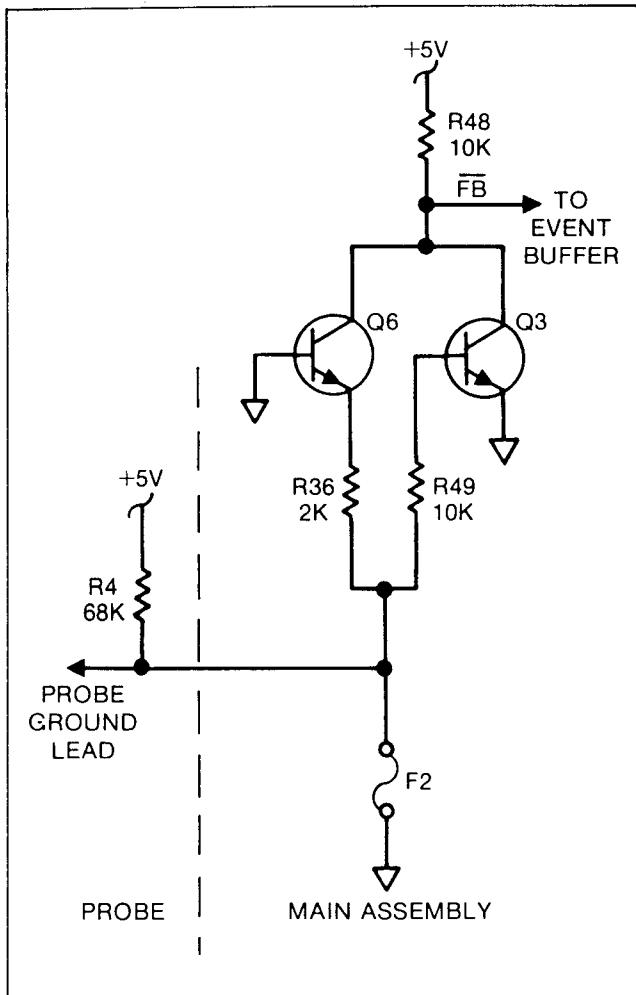
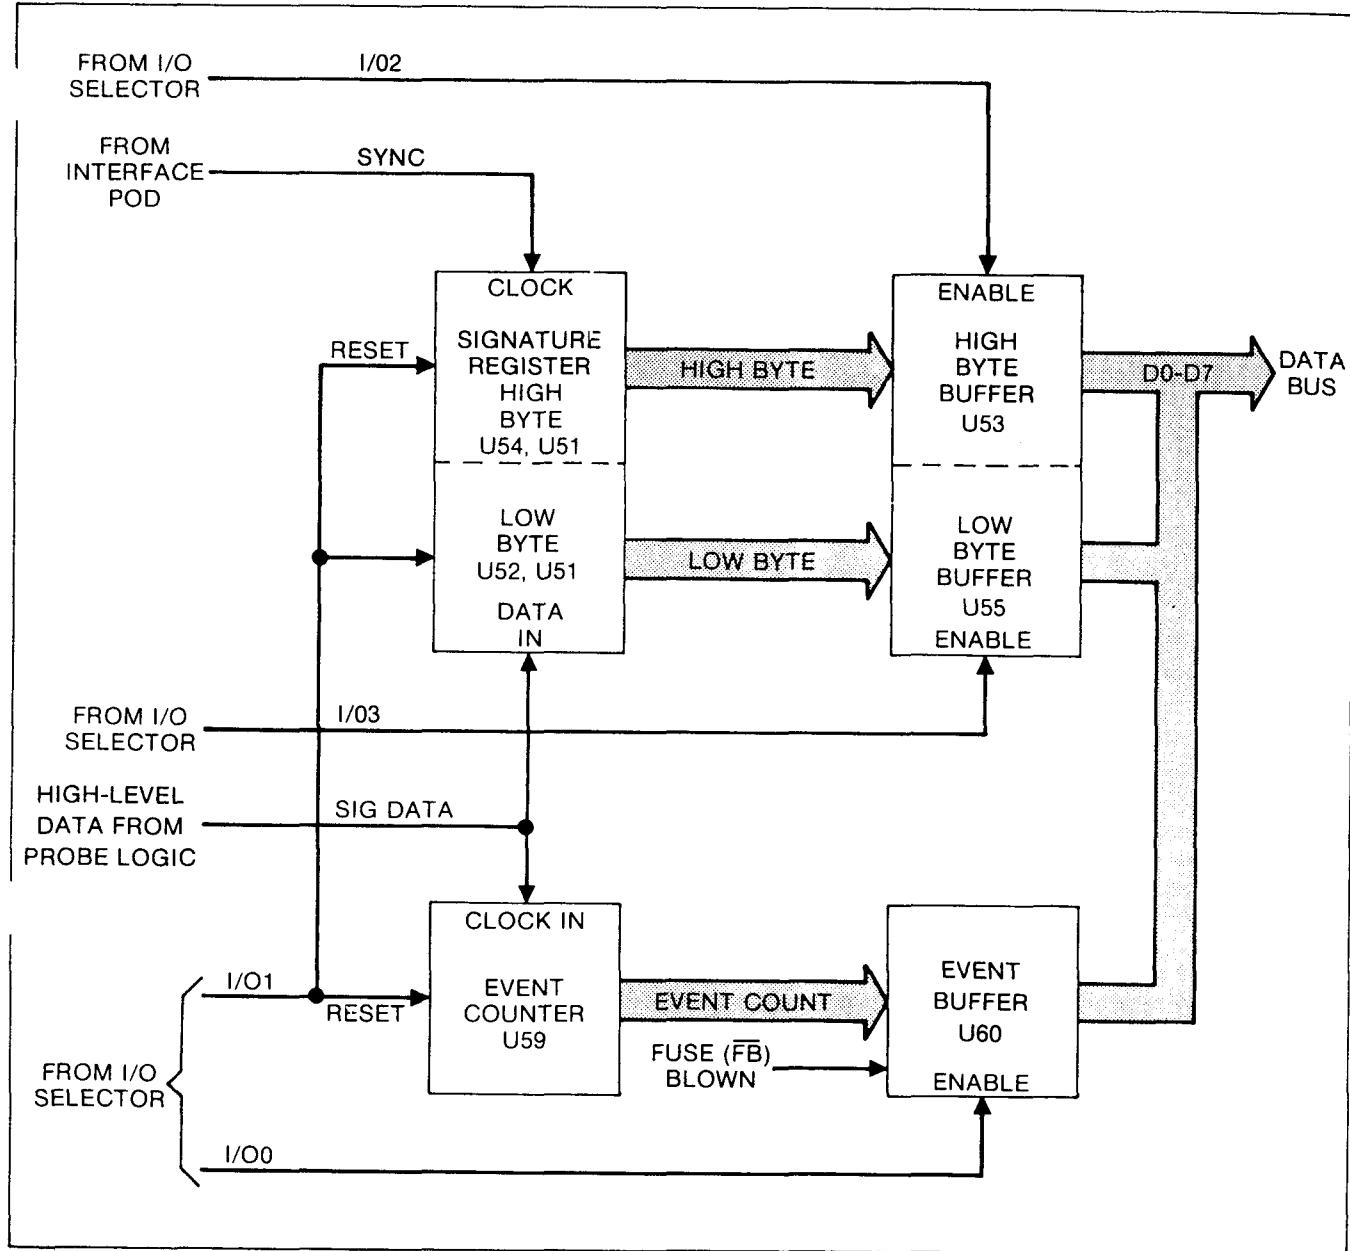

Figure 3-9. Probe Fuse Sensing Circuit
Figure 3-10. Signature Register/Event Counter
3-90. The ground path for the probe contains a fuse, F2. A sensing circuit, shown in Figure 3-9, detects failure of the fuse and/or connection of the probe ground lead to any positive or negative supply. Normally, the probe ground lead ties to ground via fuse F2. However, when an overload condition causes failure of F2, the ground lead goes to +5 volts due to a pull-up resistor (R4) contained in the probe. The +5 volts turns Q3 on to produce the FB (fuse blown) signal fed to the event buffer shown in Figure 3-10. The microprocessor reads the contents of the event buffer during the read probe operation, and examines the FB (fuse blown) bit for a blown fuse condition. If the FB line is low, the blown probe fuse messages appear on the troubleshooter display.
33. As shown in Figure 3-10, the SIG Data signals provided by the high level detector of the probe logic are fed to the data input of the signature register. The Sync